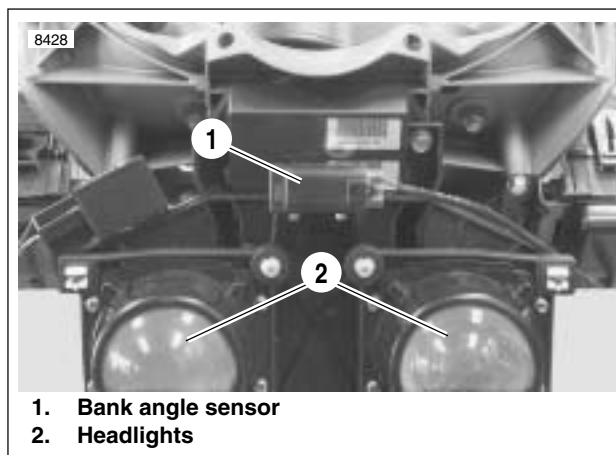

Figure 4-78. Bank Angle Sensor
3. See Figure 4-78. Unplug bank angle sensor connector [134].
3. See Figure 4-78. Install bank angle sensor connector [134].